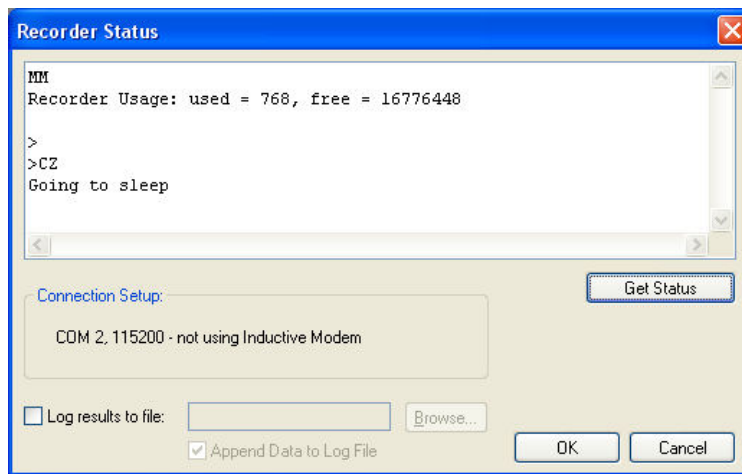

Figure 21. Recorder Status
3. On the **Tools** menu, click **Recorder Status**. This will open **Recorder Status** screen (see Figure 21).